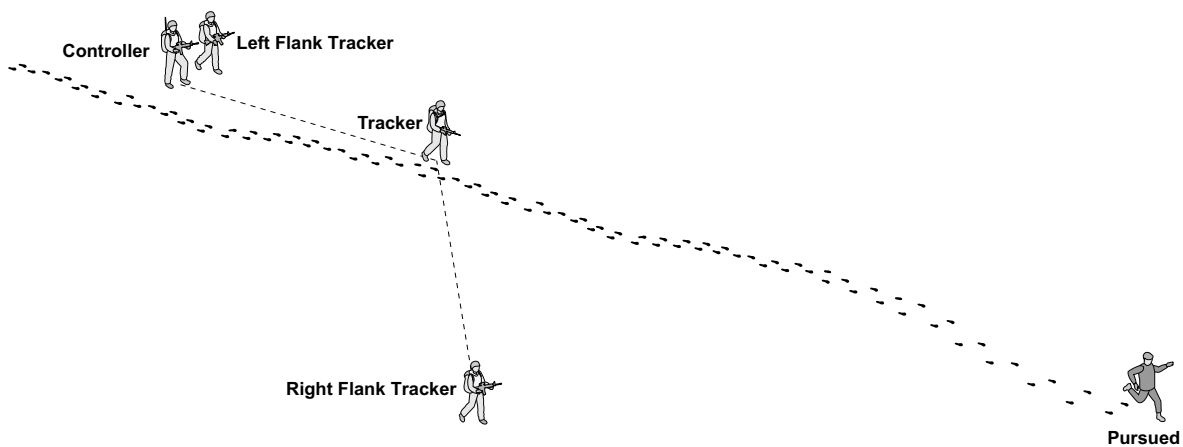

Figure 2-5. Half “Y” Formation.
- **Half “Y” Formation.** The half Y formation (see Figure 2-5) is used when ground or vegetation conditions prevent the flank tracker from keeping pace with the follow-up tracker.